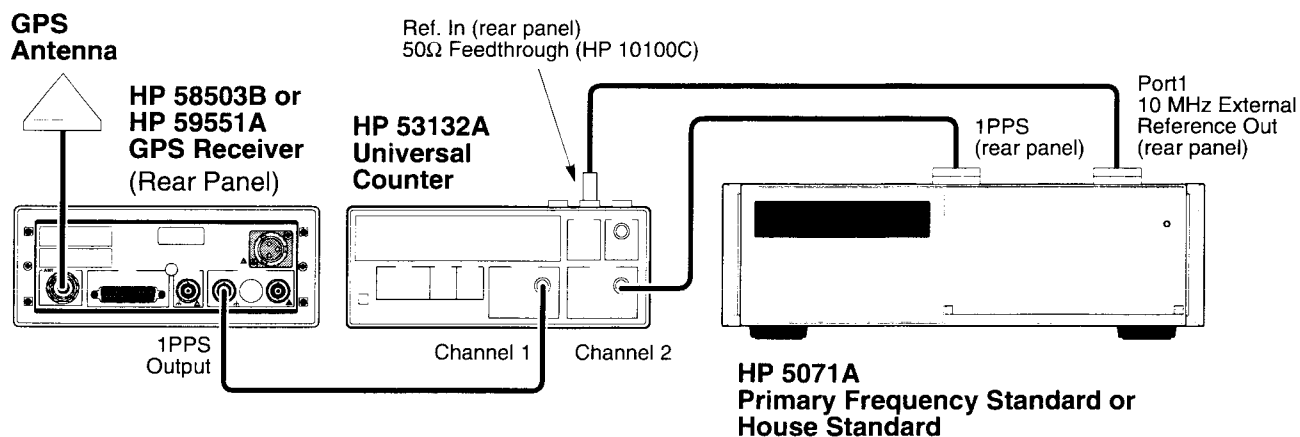

Figure D-6. 10 MHz Frequency Accuracy and 1 PPS Jitter Test Setup (HP 58503B GPS Receiver shown)
- 3 Connect the 10 MHz reference output from the reference 1 PPS source (HP 5071A or another stable, traceable house standard) to the rear-panel **Ref In** of the Universal Counter, as shown in Figure D-6, to provide an external timebase for the Counter.